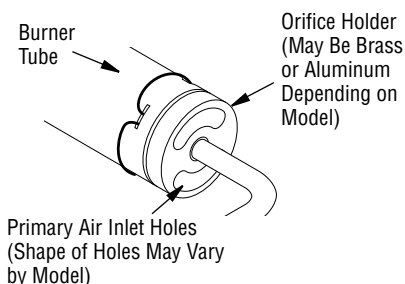

Figure 44 - Orifice Holder On Outlet Burner Tube
2. Inspect burner, pilot and primary air inlet holes on Orifice holder for dust and dirt (see **Figures 44 and 45**).